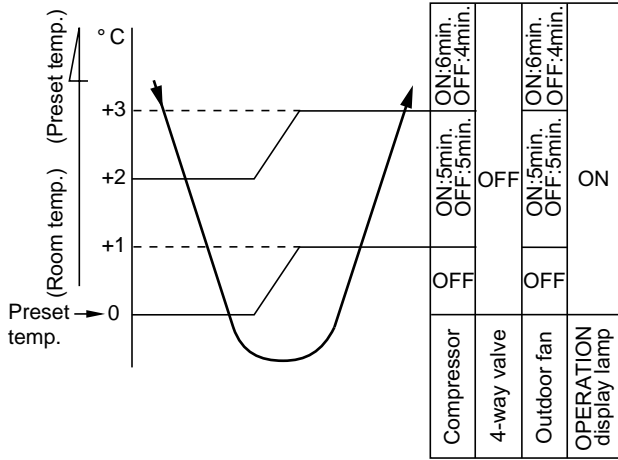

Fig. 7-3-6
- (1) The compressor, 4-way valve, outdoor fan and operation display lamp are controlled as shown in Fig. 7-3-6.